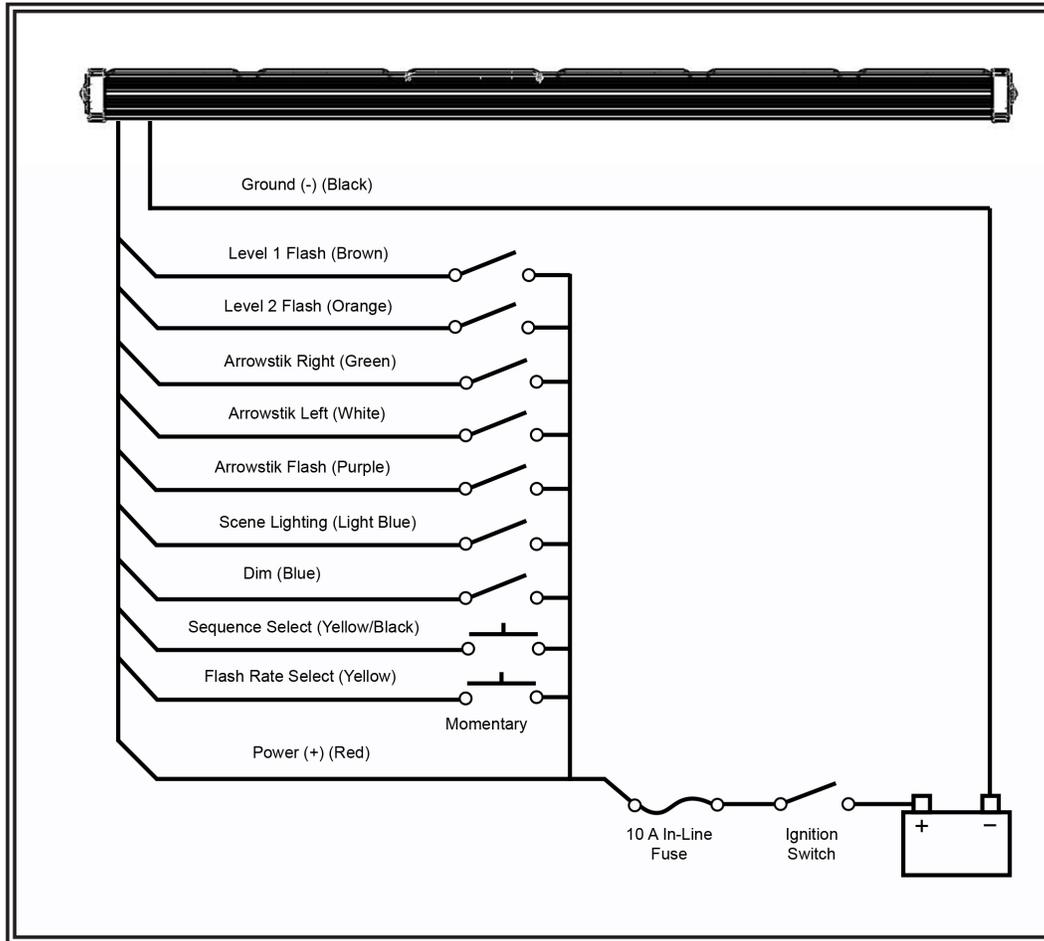

Figure 3
Before attempting to connect the unit's wiring harness, refer to the wiring diagram in FIGURE 3. The wiring diagram describes the function for each wire.
Step 1. After the lightbar has been mounted, route the power cable's red wire to a fused, ignition-switched power point as shown in FIGURE 3. Use an in-line 10 amp slow blow fuse on the positive line. Connect the black wire directly to the negative battery terminal. A minimum size of 18 AWG wire should be used on the power and ground lines.
Step 2. After the lightbar has been mounted, route the power cable's red wire to a fused, ignition-switched power point as shown in FIGURE 3. Use an in-line 10 amp slow blow fuse on the positive line. Connect the black wire directly to the negative battery terminal. A minimum size of 18 AWG wire should be used on the power and ground lines.